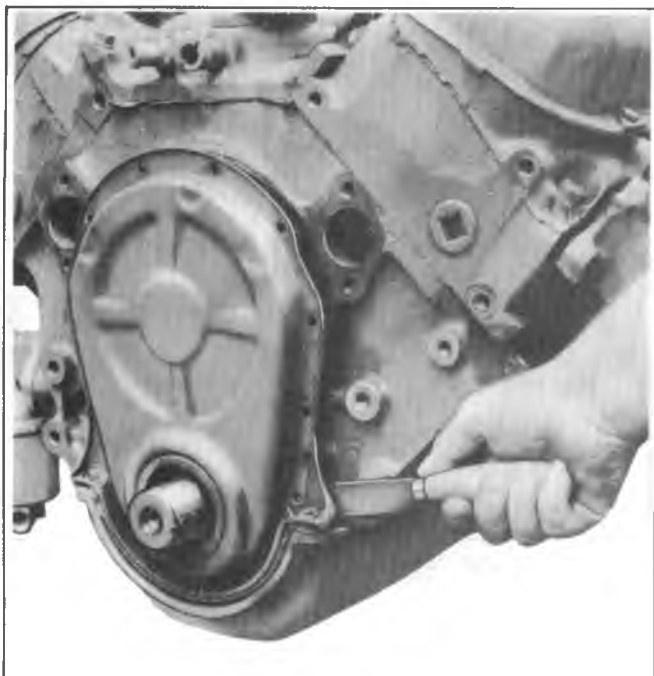

Fig. 6A5-31--Cutting Tabs on Oil Pan Front Seal
5. Using a sharp knife or other suitable cutting tool, cut oil pan front seal flush with cylinder block at both sides of cover (fig. 6A5-31).
2. Cut tabs from the new oil pan front seal (fig. 6A5-32). Use a sharp instrument to ensure a clean cut.